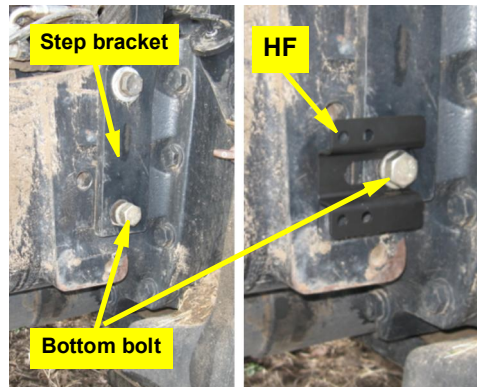

Figure 2a (Left and right): Steering block mounting location (L) and installed mounting (R)
- a. Locate and remove the bottom bolt of the cab's step bracket on the left side of the tractor (Figure 2a, left side). Using the bolt, install the hydraulic steering block mounting bracket **HF** (Figure 2a, right side). Set the bracket fully forward in its slot—hard up against the bolt.
a. Using hardware **WL** (or the two existing bolts), install WAS mounting bracket **WK** between the bolts (or fender bracket) and the axle (Figure 2a and inset). Install the bracket as follows: